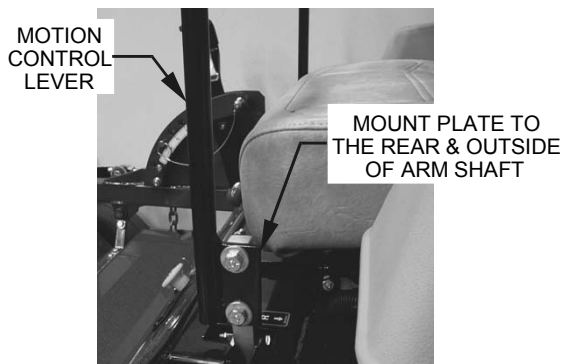

FIGURE 1
- 3.6.1 Loosen and remove the two (2) 3/8" x 1" bolts and spring disc washers which attach the motion control levers to the control arm shafts for shipping and the two (2) 3/8" x 1" bolts and spring disc washers which are screwed into the control arm shafts.
- a) Install the left motion control lever onto the control arm shaft (See Figure 1) on the left side of the console. Place the lever (with the mounting plate towards the rear) on the **outside** of the control arm shaft and secure with the bolts and washers. Position the lever so the bolts are in the center of the slots on the lever mounting plate and tighten until snug. Repeat on opposite side of unit.